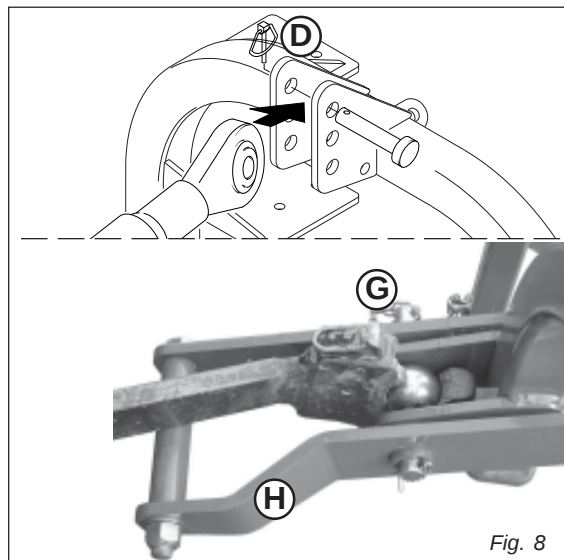

Fig. 8
2. Connect the upper third-point and correctly regulate by means of the adjuster (B, Fig. 7). Place plate (C, Fig. 7) at the left side of the hitch integral with the same pin. Lock in place with the snap-in split pins (D, Fig. 8).
3. Hook the oscillating arms of the tractor to pins (E and F, Fig. 7). The hoisting arm (H, Fig. 8) must be fixed underneath the tractor arm. Lock in place with the snap-in split pins (G Fig. 8)